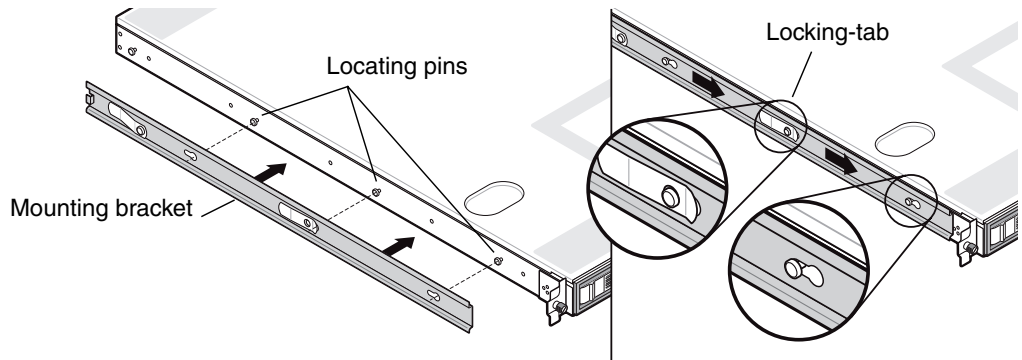
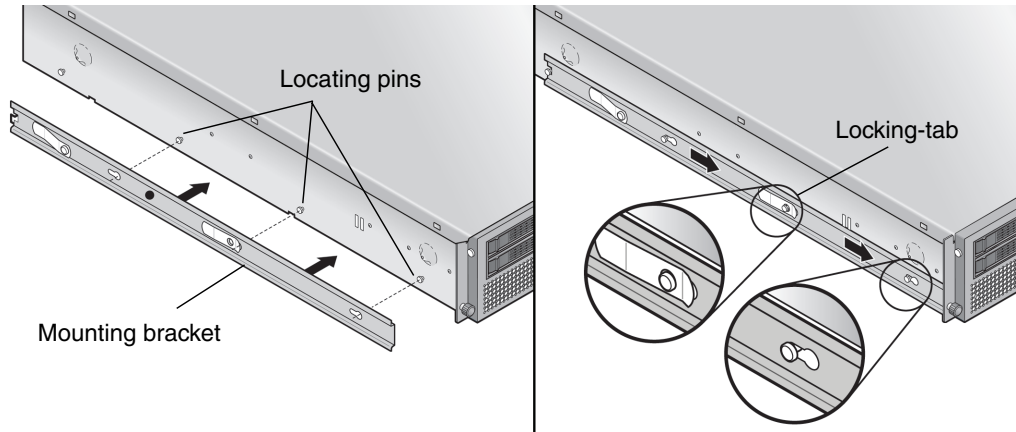

FIGURE 1-1 Installing the Slide-Rail Mounting Brackets Onto the Sun Fire V20z Server
FIGURE 1-2 Installing the Slide-Rail Mounting Brackets Onto the Sun Fire V40z Server
1. **Install one mounting bracket to each side of the server as shown in FIGURE 1-1 or FIGURE 1-2.**